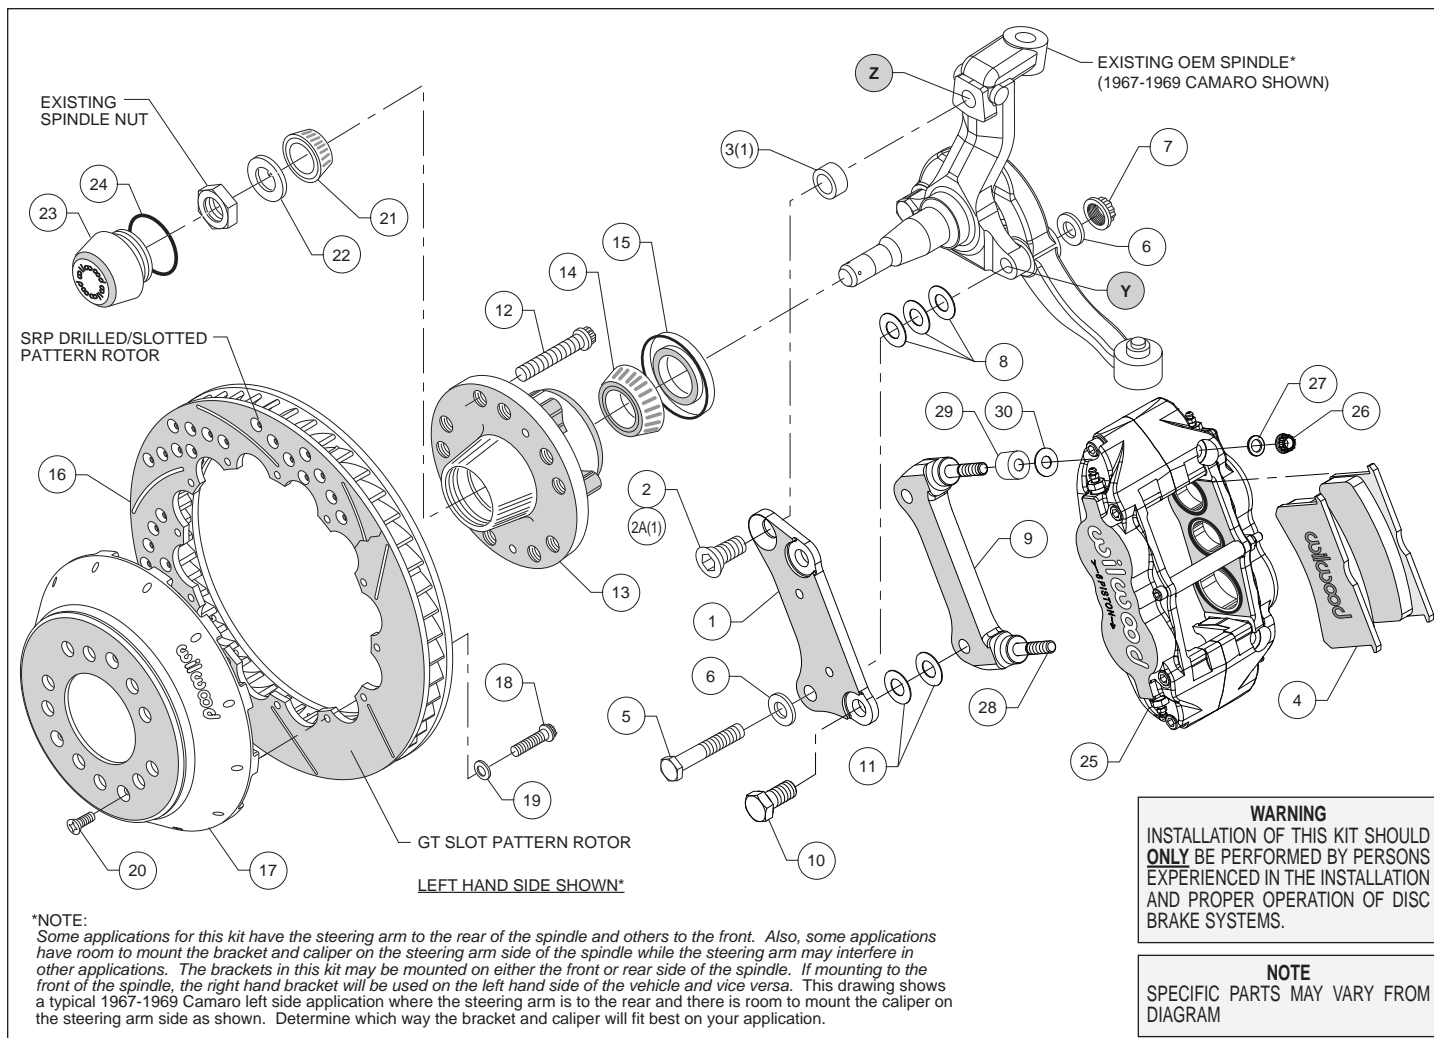
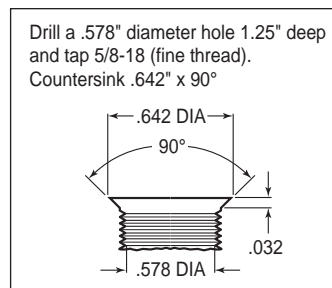
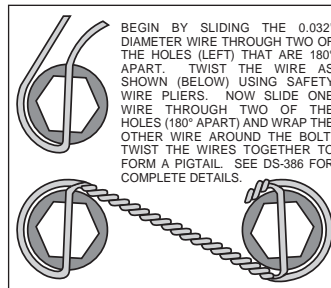

Figure 1. Typical Installation Configuration
Figure 3. Drill and Tap Detail
Figure 4. Safety Wire Diagram
**Assembly Instructions** (numbers in parenthesis refer to the parts list on the preceding page, and Figure 1):
•**NOTE:** Some applications for this kit have the steering arm to the rear of the spindle and others to the front. Also, some applications have room to mount the bracket and caliper on the steering arm side of the spindle while the steering arm may interfere in other applications. The brackets in this kit may be mounted on either the front or rear side of the spindle. If mounting to the front of the spindle, the right hand bracket will be used on the left hand side of the vehicle and vice versa. Figure 1 shows a typical 1967-1969 Camaro left side application where the steering arm is to the rear and there is room to mount the caliper on the steering arm side as shown. Determine which way the bracket and caliper will fit best on your application.
•**NOTE:** Some spindles in this year range may require the following modifications (reference Figure 1 and Figure 3): Top anchor pin hole (Z) must be drilled and tapped to the dimensions as outlined in Figure 3. The lower bolt hole (Y) in the spindle used to mount the new caliper bracket, and the mating steering arm hole, must be enlarged to .50" by drilling. It is recommended these modifications be performed by a qualified machinist.
•Install wheel studs (12) into the hub (13), Photo 1. Torque to 77 ft-lb. **NOTE:** There are two five lug patterns in the hub (5 x 4.50 and 5 x 4.75). Make sure of the correct hole pattern for the correct wheel application before installing studs into hub.
•Pack the large inner bearing cone (14) with high temperature disc brake bearing grease (available from your local auto parts store) and install into the backside of the hub (13).
•Install the grease seal (15) by pressing into the backside of the hub (13), Photo 2.
•Orient the rotor (16) and the hat (17) as shown in Figure 1 and Photo 3. Attach rotor to hat using bolts (18) and washers (19). Using an alternating sequence, apply red *Loctite*® 271 to the threads, and torque to 155 in-lbs. For an added measure of security, the bolts may be safety wired using standard 0.032 inch diameter stainless steel safety wire as shown in Figure 4. Please refer to Wilwood's data sheet DS-386 (available at [www.wilwood.com/Pdf/DataSheets/ds386.pdf](http://www.wilwood.com/Pdf/DataSheets/ds386.pdf)) for complete safety wire installation instructions.
•**Disc Brake Spindle Application Only:** Follow the instructions below, but instead use bolt (2A), and spacer (3) in the upper bolt hole location, Figure 1.
•Orient the flat bracket (1) as shown in Figure 1 and Photo 4, and install using bottom bolt (5), washers (6), and nut (7), Figure 1. Initially place three .032" thick shims (8) between the bracket and spindle. Install the upper bolt (2 or 2A). Temporarily tighten bolts. **NOTE:** The bracket must fit squarely against the mounting surfaces on the spindle. Inspect for interference from casting irregularities, machining ridges, burrs, etc. Temporarily install the new hub, hat and rotor assembly. Check that the bracket is aligned parallel to the rotor, Photo 5. If not, adjust by adding or subtracting shims (8) on the lower bolt between the bracket and spindle, Figure 1. Once the bracket alignment is correct, remove the upper bolt (2 or 2A), apply red *Loctite*® 271 to the bolt threads, and torque to 120 ft-lb. Torque the lower lock nut to 65 ft-lb.
•The radial mount caliper bracket (9) should initially be installed with clean, dry threads on the mounting bolts. Orient the bracket as shown in Figure 1 and Photo 6, and install using bolts (10). Initially place two .029 thick shims (11) on each bolt between the two brackets, Figure 1. Temporarily tighten the mounting bolts. Later, after the caliper alignment has been checked, the mount bolts will be secured using red *Loctite*® 271.
•Pack the small outer bearing cone (21) with high temperature disc brake bearing grease and install into hub (13). Final install the hub assembly onto the spindle. Secure using spindle washer (22) and OEM spindle nut, Photo 7. Adjust bearings per OEM specifications. Install saved OEM nut lock (if any) and a new cotter pin (not included).
•Screw dust cap (23) into hub (13). Friction created by the o-ring (24) on the dust cap keeps it from unscrewing. **NOTE:** The O.D. of the existing OEM spindle washer may be larger than the I.D. of the dust cap not allowing it to seat against the hub face. Therefore, use the spindle washer (22) supplied with the kit instead of the OEM washer.
•Final install the rotor (16 and 17) assembly onto the hub (13), taking care to align the small countersunk holes in the hat with the small threaded holes in the hub. **NOTE:** The hat must fit flush against the hub face or excessive rotor run out may result. Install three flat head screws (20) through the small holes in the hat (17), Photo 8, and torque to 85 in-lb.
•**NOTE:** This kit contains distinct right and left hand calipers that must be mounted in a specific direction, as described below. Lubricate the caliper mounting studs (28) with lightweight oil. Initially place spacer (29) and one .035" thick shim (30) on each stud between the caliper and the bracket, as shown in Figure 1 and Photo 9. Mount the caliper (25) onto the bracket (9) using lock nuts (26) and washers (27), Figure 1. Ensure that the caliper is mounted so the largest pistons are at the rotor exit end of the caliper, in relation to the direction of rotor rotation. Temporarily tighten the lock nuts. The rotor should be centered in the caliper, Photo 10. If not, adjust by adding or subtracting shims (11) between the flat bracket (1) and the caliper bracket (9). Always use the same